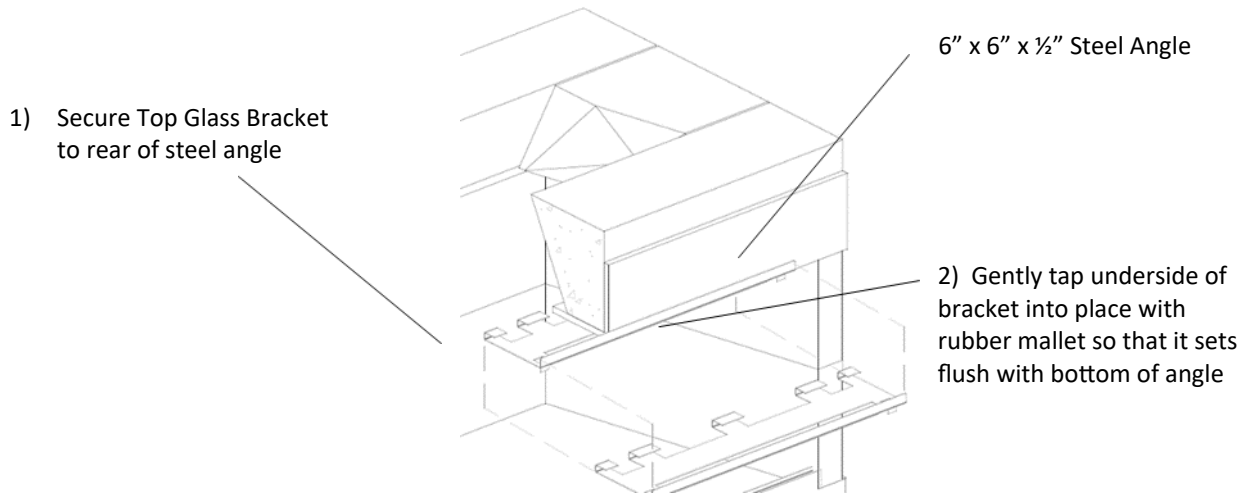

FIGURE 17
- 9) For the 60", 72", 96" and 120" models, once the dampers beams are set into place, secure the Top Glass Bracket A (E-TG2) in place with the bottom of the angle steel as shown (**Figure 17**). Each model will require a different number of these to be spaced equally across the firebox's opening. Tap them into place utilizing a rubber mallet to prevent marring the finish.